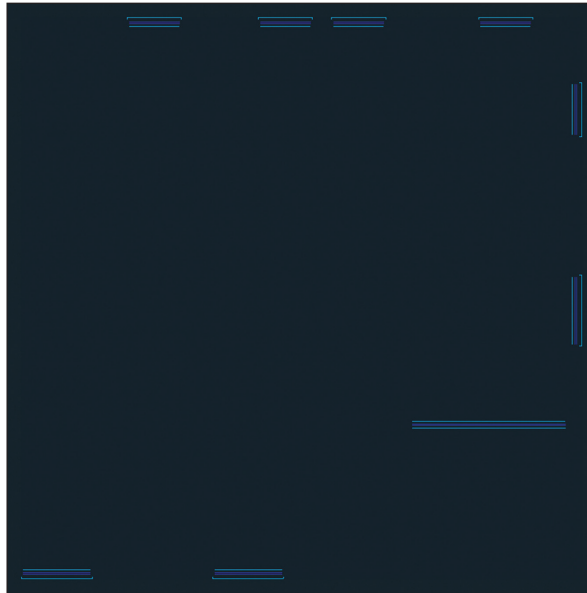

FIGURE 6.14 Isolating a couple of layers for focused work
1. Click the Isolate tool on the Layers panel and then make a crossing selection through one of the windows. Press Enter, and all the other layers disappear (see Figure 6.14).